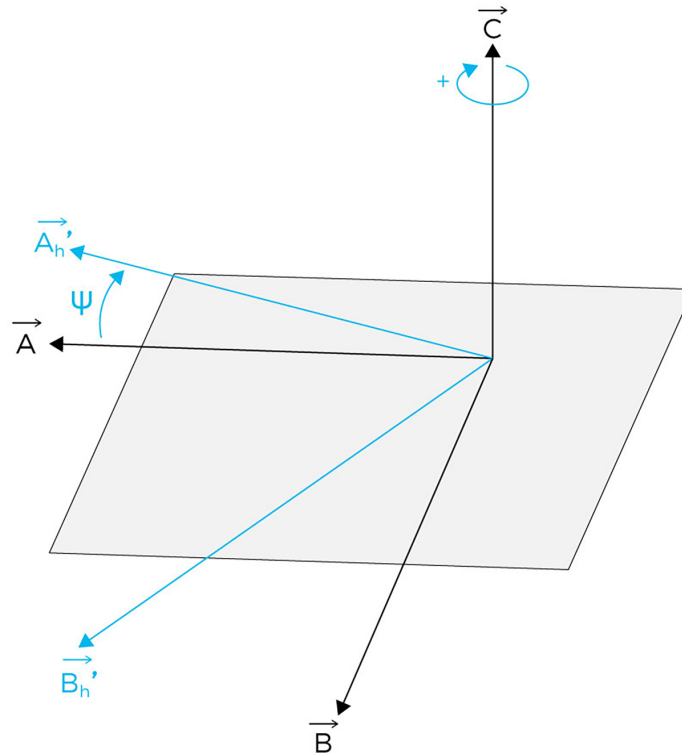

Figure 19 - Illustration of the first rotation around C
1. Rotation of (A, B, C) around the C axis, **angle Ψ** (see the Figure 19) to yield (A_h', B_h', C).